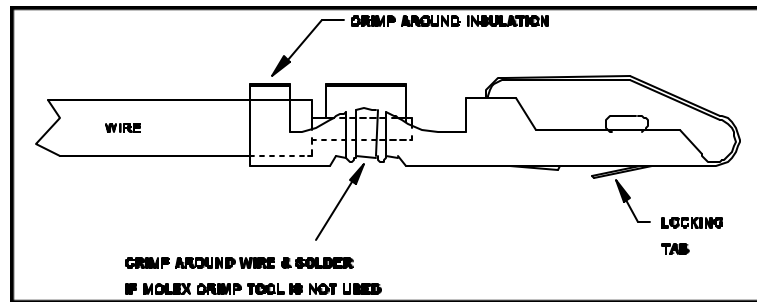

Figure 3 Crimp contact terminal detail.
Due to the variety of possible installations and engine locations, a wire harness is not provided. All wire connections to the sensors should be done using standard connectors and/or methods. Due to the very low currents to all sensors, 20 to 26 gage wire may be used although wire sizes smaller than 22 gage is physically harder to work with. The more flexible teflon (plenum cable) wire instead of the regular aircraft wire will make the installation and maintenance easier. The Molex crimp terminals provided are suitable for **18 to 24** gage wire if a commercial crimp tool is used (see **Figure 3**). Avoid soldering the crimp terminals as the heat may destroy their spring temper, resulting in a possible poor connection between the crimp terminal and the unit's gold edge connector when installed.
1. After the contact terminals have been installed on the wiring harness, the contact terminals can be inserted into the proper location in the connector housing (see Figures). The terminal cannot be inserted upside down. Be sure to push the terminal all the way in until a click can be felt or heard. Gently pull on the wire to assure that the terminal is locked in. If a terminal needs to be removed from the connector housing and a Molex extractor tool is not available, insert a thin narrow blade (a flattened wire or paper clip) into the housing (from the opposite side of the wire) between the crimp terminal and the housing to release the locking tab while gently pulling on the wire. See **Figure 3** to locate the locking tab on the crimp terminal. When making the removal tool, be sure that the height of the tool is slightly taller than the opening, and has a square nose.